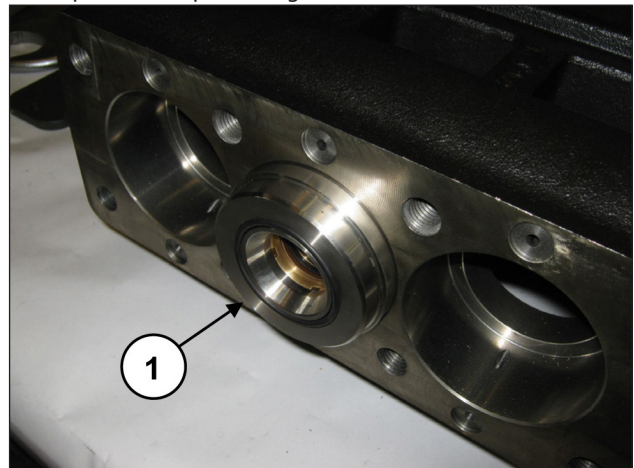

Fig. 169
Turning the shaft, have the piston guide move forward so that the buffer, moving ahead, can expel the seal support and the entire piston unit (pos. ①, Fig. 169).